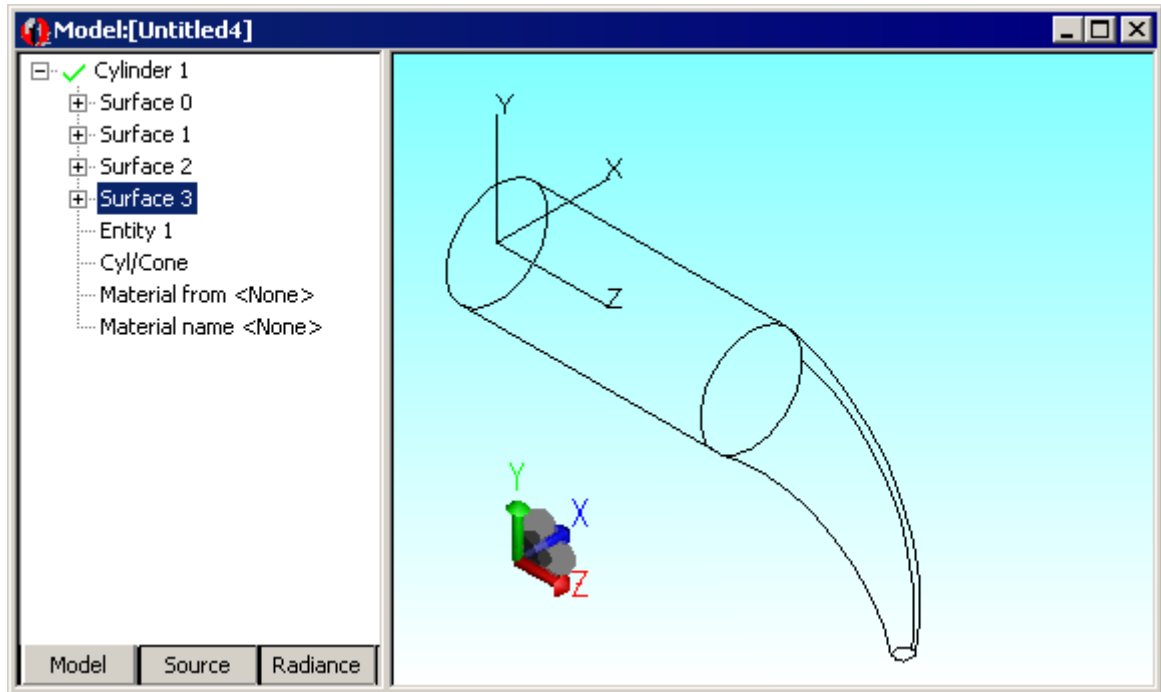

FIGURE 9.37 - The Result of the Values in the Dialog Box
10. Click *Revolve Surface*. The face will be revolved and tapered as shown in Figure 9.37.